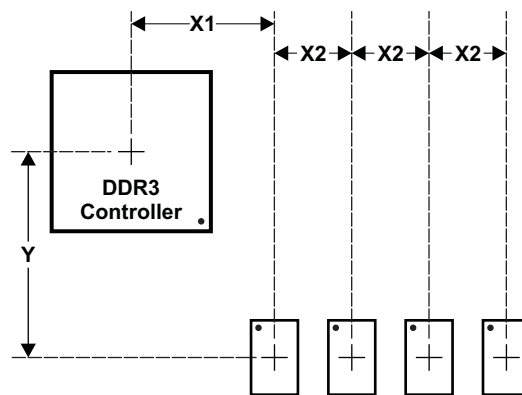
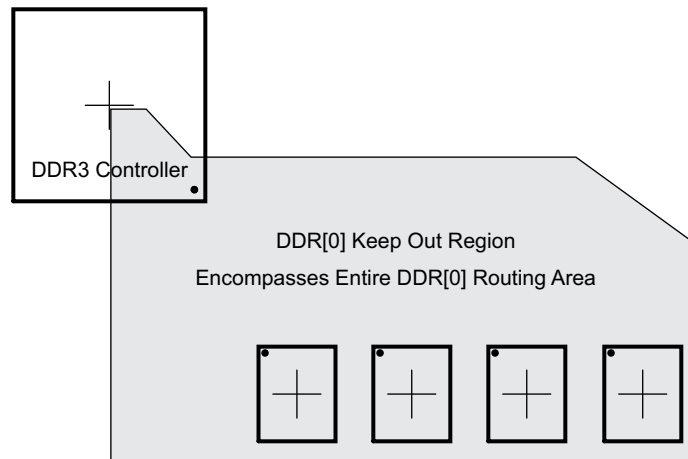

Figure 8-59. Placement Specifications
Figure 8-60. DDR3 Keepout Region
Figure 8-59 shows the required placement for the processor as well as the DDR3 devices. The dimensions for this figure are defined in Table 8-67. The placement does not restrict the side of the PCB on which the devices are mounted. The ultimate purpose of the placement is to limit the maximum trace lengths and allow for proper routing space. For a 16-bit DDR memory system, the high-word DDR3 devices are omitted from the placement.
- (1) For dimension definitions, see Figure 8-59.
- (2) Measurements from center of processor to center of DDR3 device.
- (3) Minimizing X1 and Y improves timing margins.
- (4) w is defined as the signal trace width.
- (5) Non-DDR3 signals allowed within DDR3 keepout region provided they are separated from DDR3 routing layers by a ground plane.
The region of the PCB used for DDR3 circuitry must be isolated from other signals. The DDR3 keepout region is defined for this purpose and is shown in Figure 8-60. The size of this region varies with the placement and DDR routing. Additional clearances required for the keepout region are shown in Table 8-67. Non-DDR3 signals should not be routed on the DDR signal layers within the DDR3 keepout region. Non-DDR3 signals may be routed in the region, provided they are routed on layers separated from the DDR signal layers by a ground layer. No breaks should be allowed in the reference ground layers in this region. In addition, the 1.35-V/1.5-V DDR3L/DDR3 power plane should cover the entire keepout region. Also note that the DDR3 controller's signals should be separated from each other by the specification in item 5 (see Table 8-67 for item 5 specification).